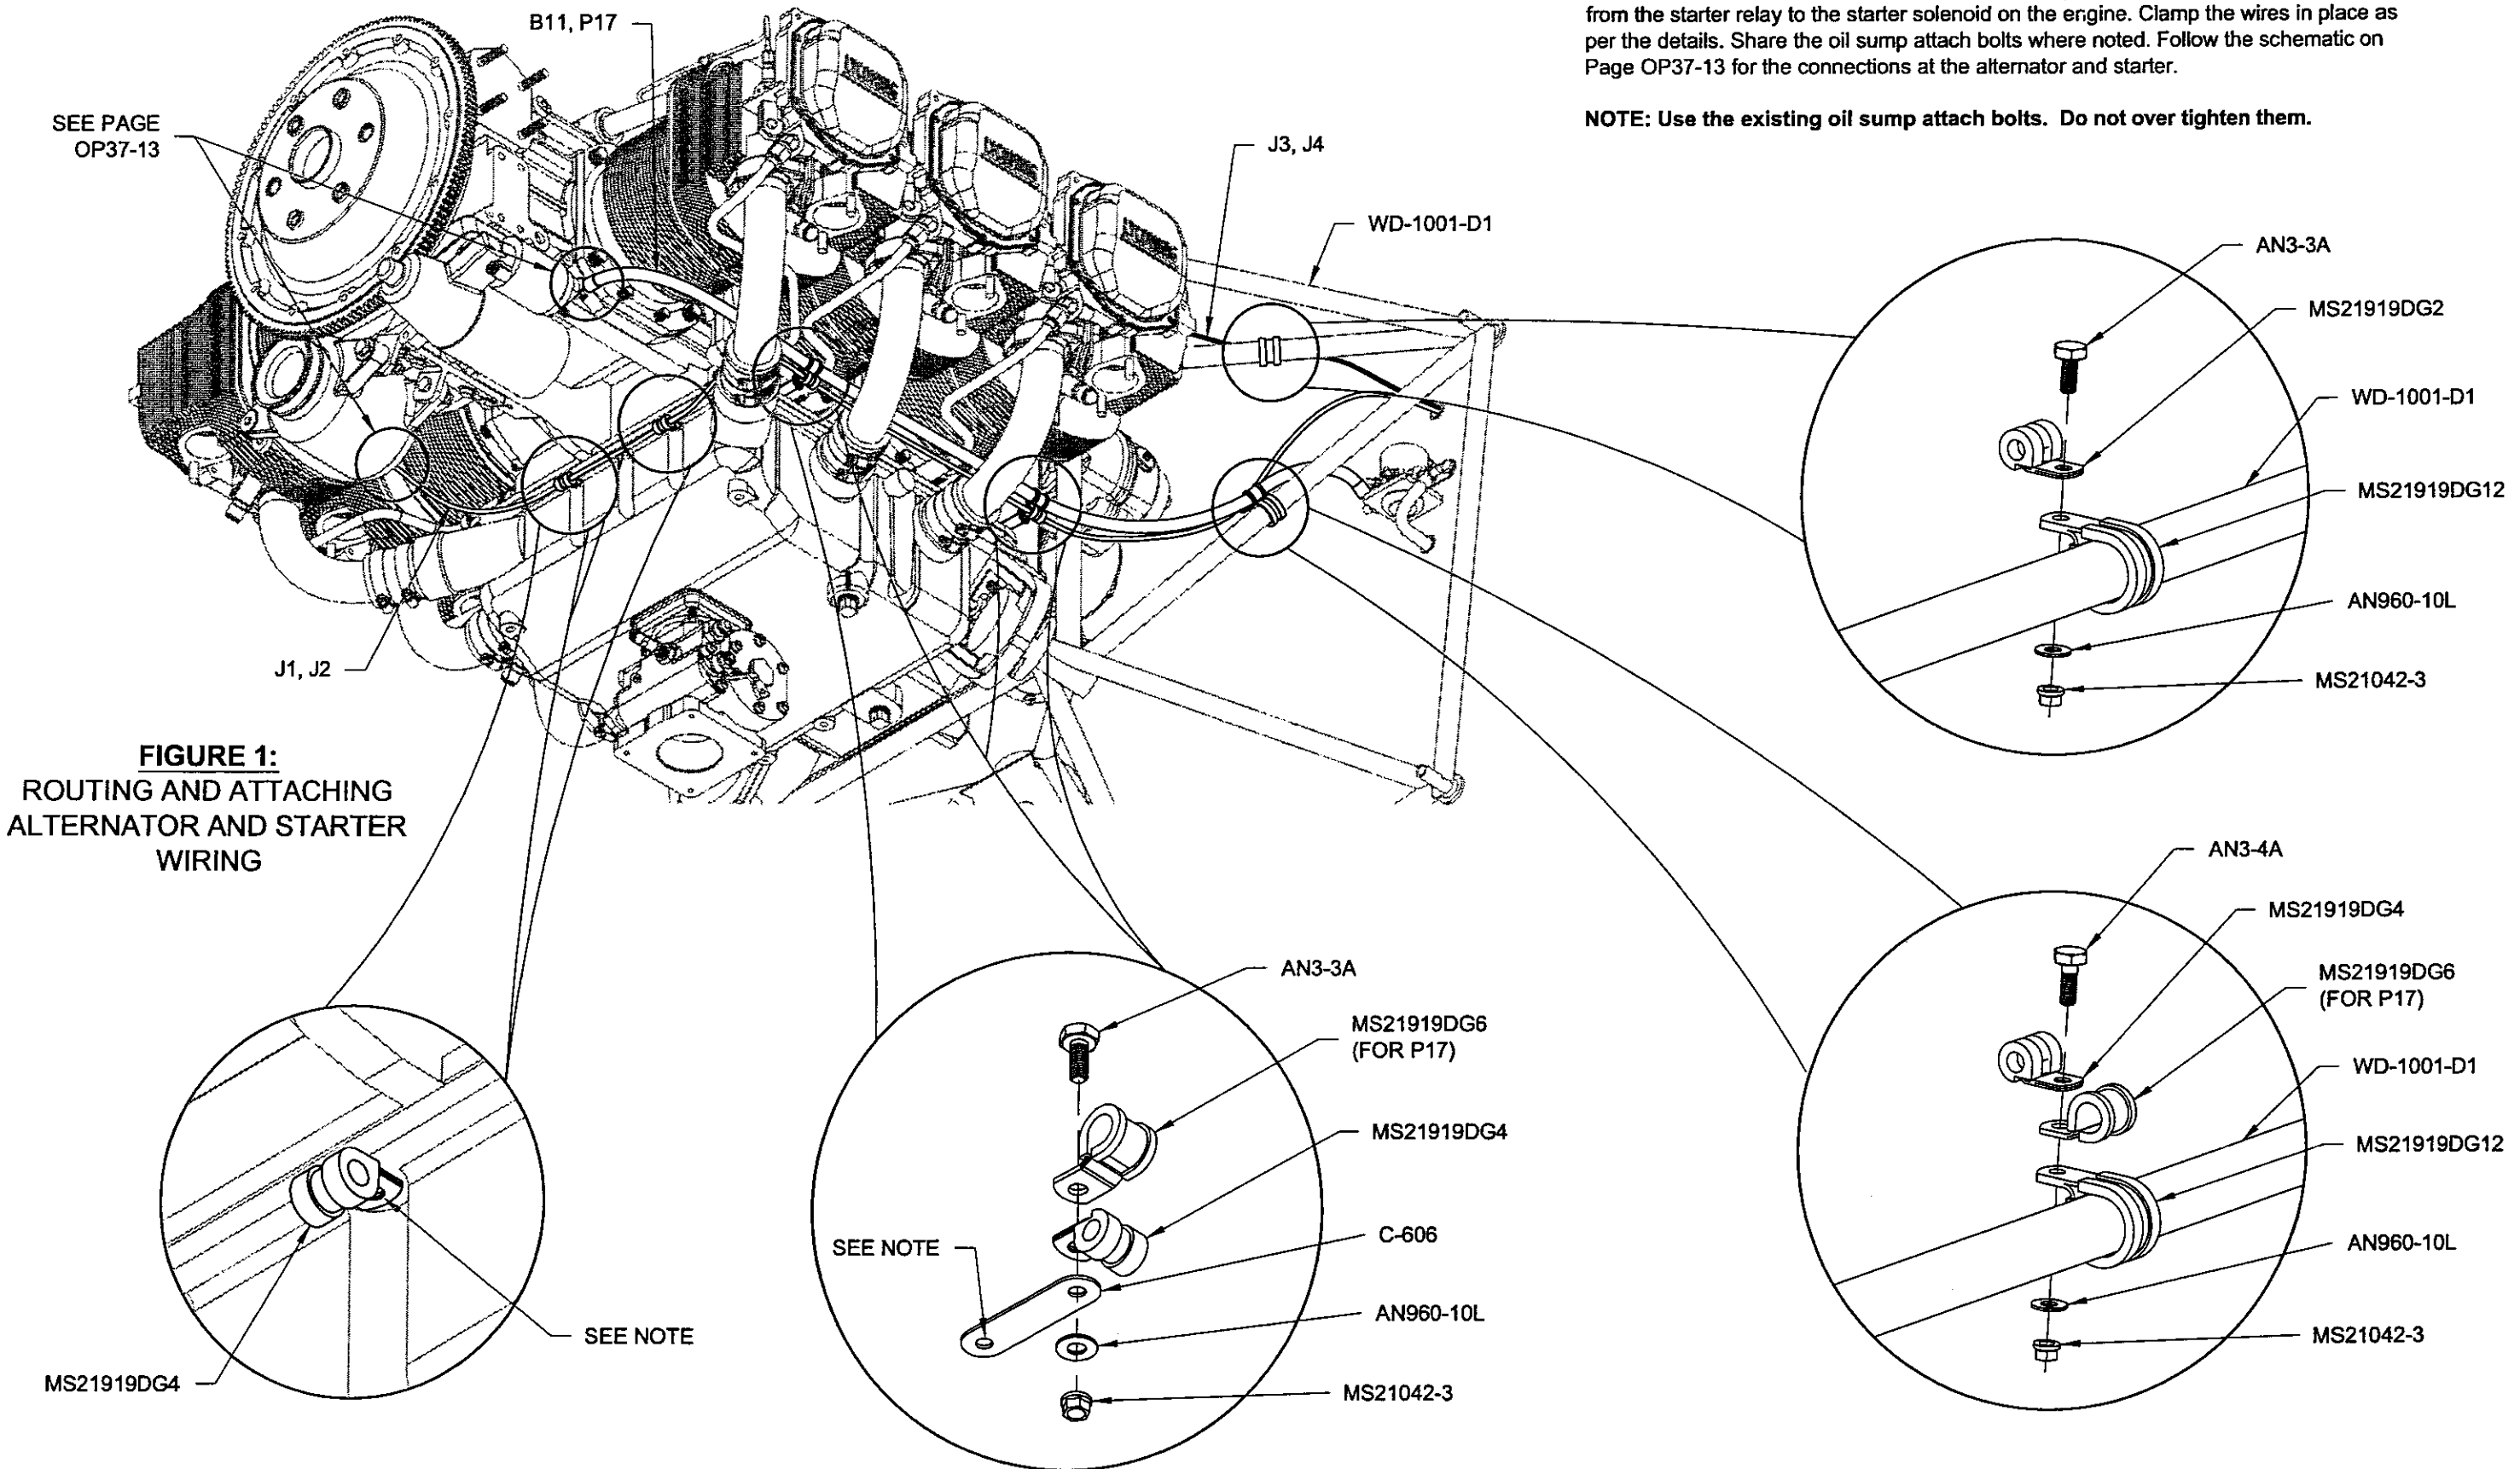

FIGURE 1:
Step 1: Fabricate wire B11 as per the schematic on Page OP37-13. Do not cut the wires to final length until you have firmly established their route. Following the WD-1001-D1 Dyna-1 Engine Mount tube pass wires J1, J2 and B11 between the engine cylinders and the induction intake tubes on the left side of the engine as per Figure 1. Route cable P17 from the starter relay to the starter solenoid on the engine. Clamp the wires in place as per the details. Share the oil sump attach bolts where noted. Follow the schematic on Page OP37-13 for the connections at the alternator and starter.
Step 1: Enlarge the hole in both ground strap attach tabs on the WD-1001-D1 Dyna-1 Engine Mount as shown in Figure 1. Remove the powder coating from the side of the tab that will contact the terminal to insure a good electrical connection.